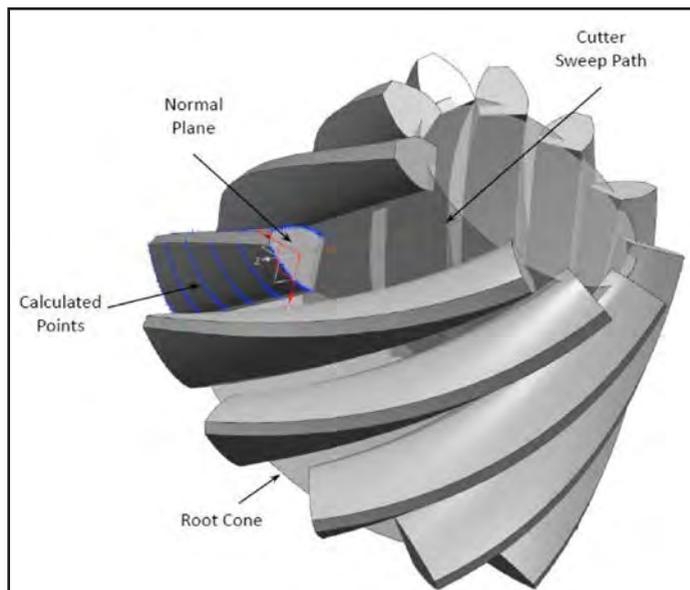

Figure 1 Visual depiction of calculation method.
**What is missing in AGMA 929-A06 to complete a model.** A generalized set of equations can be produced from the content of AGMA 929-A06 to calculate the normal tooth thicknesses of a bevel tooth anywhere in the profile or lengthwise direction. The purpose of this document is to fill in the gaps of AGMA 929-A06 so that a model can be generated. The majority of the content of this document pertains to how the normal tooth thicknesses are oriented in three dimensions and resolves these thicknesses into an array of Cartesian coordinates. (See Figure 1 for a visual depiction of the calculation method described within this document.) Additional information regarding the terminology described within the figure is in the subsequent sections.